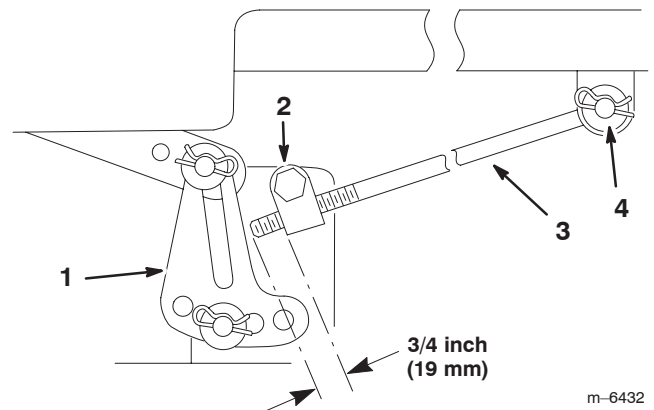

Figure 39
- Measure the length of the rod extending out of the adjusting block on the sides of the chassis (Fig. 39).
- If the rod length is **not** a 3/4 inch (19 mm), remove the hairpin cotter and washer from the end of the adjusting rod (Fig. 39) and turn the rod until the 3/4 inch (19 mm) dimension is obtained.